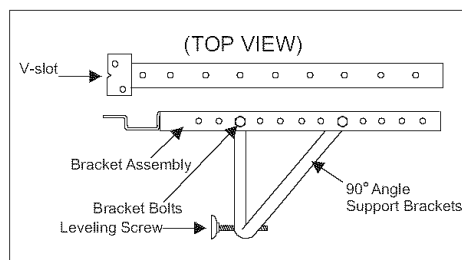

Fig. 5
### A. Attach the **bracket assembly** to **90° angle support brackets** (Fig. 5) using (2) **1 1/2" bolts**